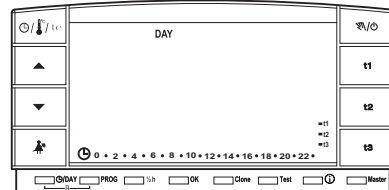

fig. 71
- Press **OK** to set display shutdown from 0:00 am to 6:00 am (example in fig. 71).
- Press **OK**: after 3 minutes, the display will shut down over the 24 hours of each day (example in fig. 71).